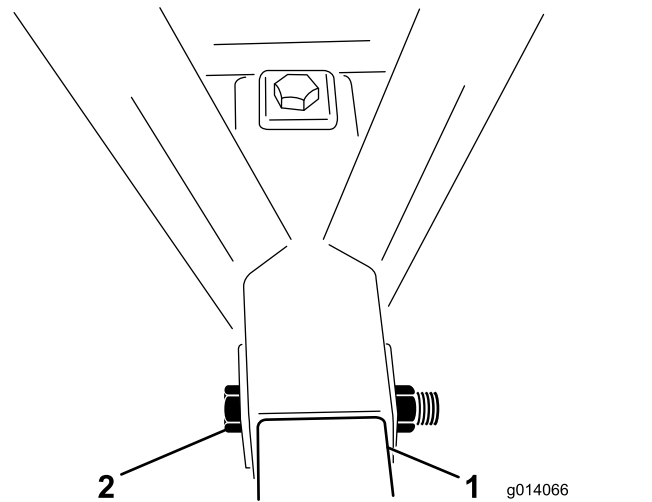

Figure 4
5. Place a bolt (1 x 6-1/2 inchrd) through the frame and hitch tube and secure it with a locknut (Figure 4). Torque the locknut to 976 to 1,193 N-m (720 to 880 ft-lb).
6. Place a bolt (1 x 6-1/2 inches) through the top of the frame and down through the hitch tube and secure it with a locknut (Figure 4). Torque the locknut to 976 to 1,193 N-m (720 to 880 ft-lb).